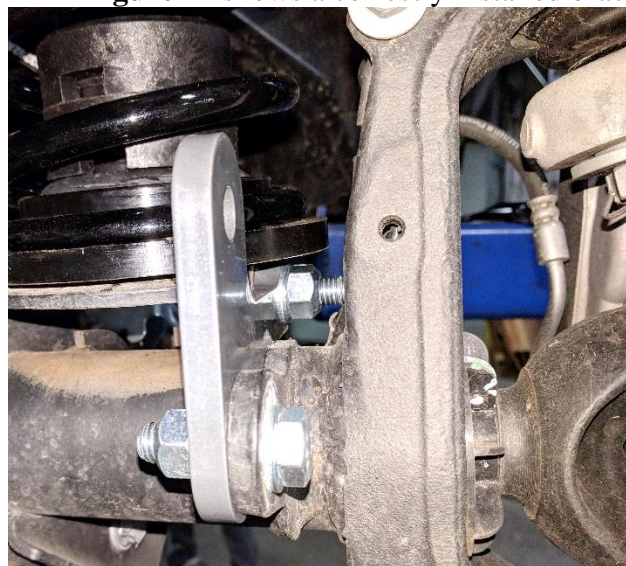

Figure 11. Correctly Installed Bracket
15. Use a washer under the head of the bolt and under the nut. Install the M12 bolt with the bolt head facing 'out' towards the wheel. **Figure 11** shows a correctly installed bracket.